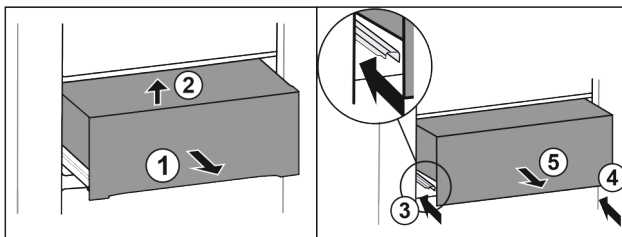

Fig. 27*
- ▶ Pull out the drawer halfway Fig. 27 (1).*
- ▶ Lift at the front Fig. 27 (2).*
- ▶ Slide in left rail Fig. 27 (3).*
- ▶ Slide in right rail Fig. 27 (4).*
- ▶ Remove the drawer to the front Fig. 27 (5).*